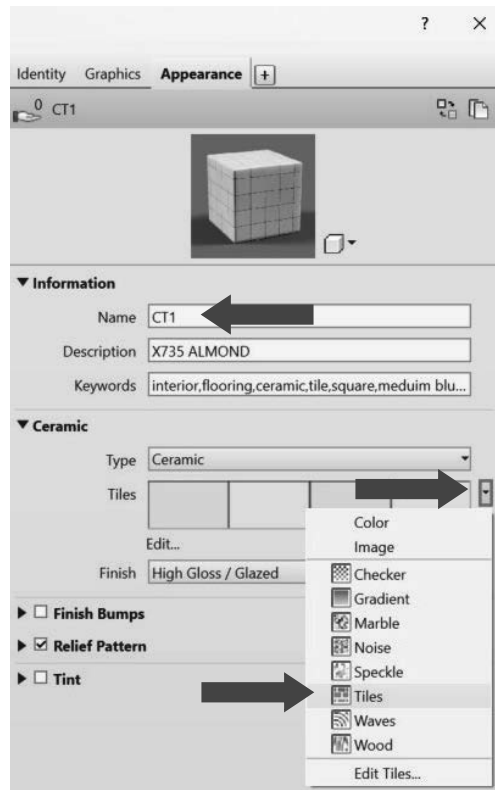

FIGURE 4-4.4 Material Browser; Appearance tab
19. Rename it **CT1** (Steps 1 & 2, Figure 4-4.4).
Notice this material is currently using an image file to represent the tile (Figure 4-4.4). This would be like taking a photo of an installed tile and then cropping it so that it repeats nicely. In the next few steps, you will take a look at another option for representing tile.
20. Click the down-arrow to the right of the image preview (Step 3, Figure 4-4.4).
The *Material Browser* dialog below shows one of the other options shown in Figure 4-4.4. This is the **Checker** option where you can select two separate colors. This can be used for an entire wall or in an accent area (Figure 4-4.6). Be sure to explore the other options, such as *Wood*, which can be used to represent wood or other things such as art glass.